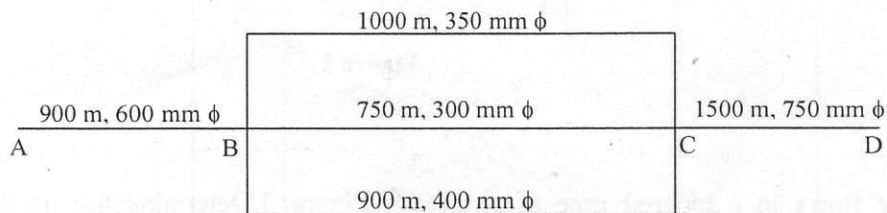

Figure 5
3.(a) The pipes in the system shown in Figure 5 are all made of cast iron ($e = 0.25 \text{ mm}$). With a flow of $0.60 \text{ m}^3/\text{s}$, find the head loss from B to C. Given $\nu = 1.14 \times 10^{-6} \text{ m}^2/\text{s}$. (15)